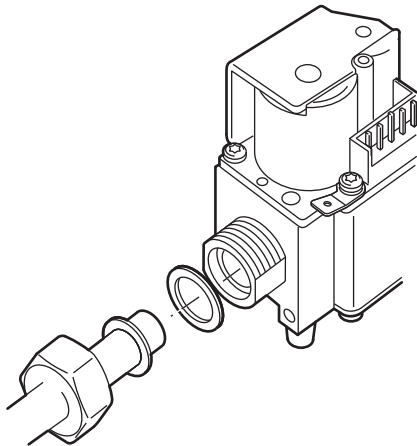

Fig. 6. External thread connection with nut and "O"-ring
- ④ With $\frac{3}{4}$ " nut and "O"-ring (fig. 6.)